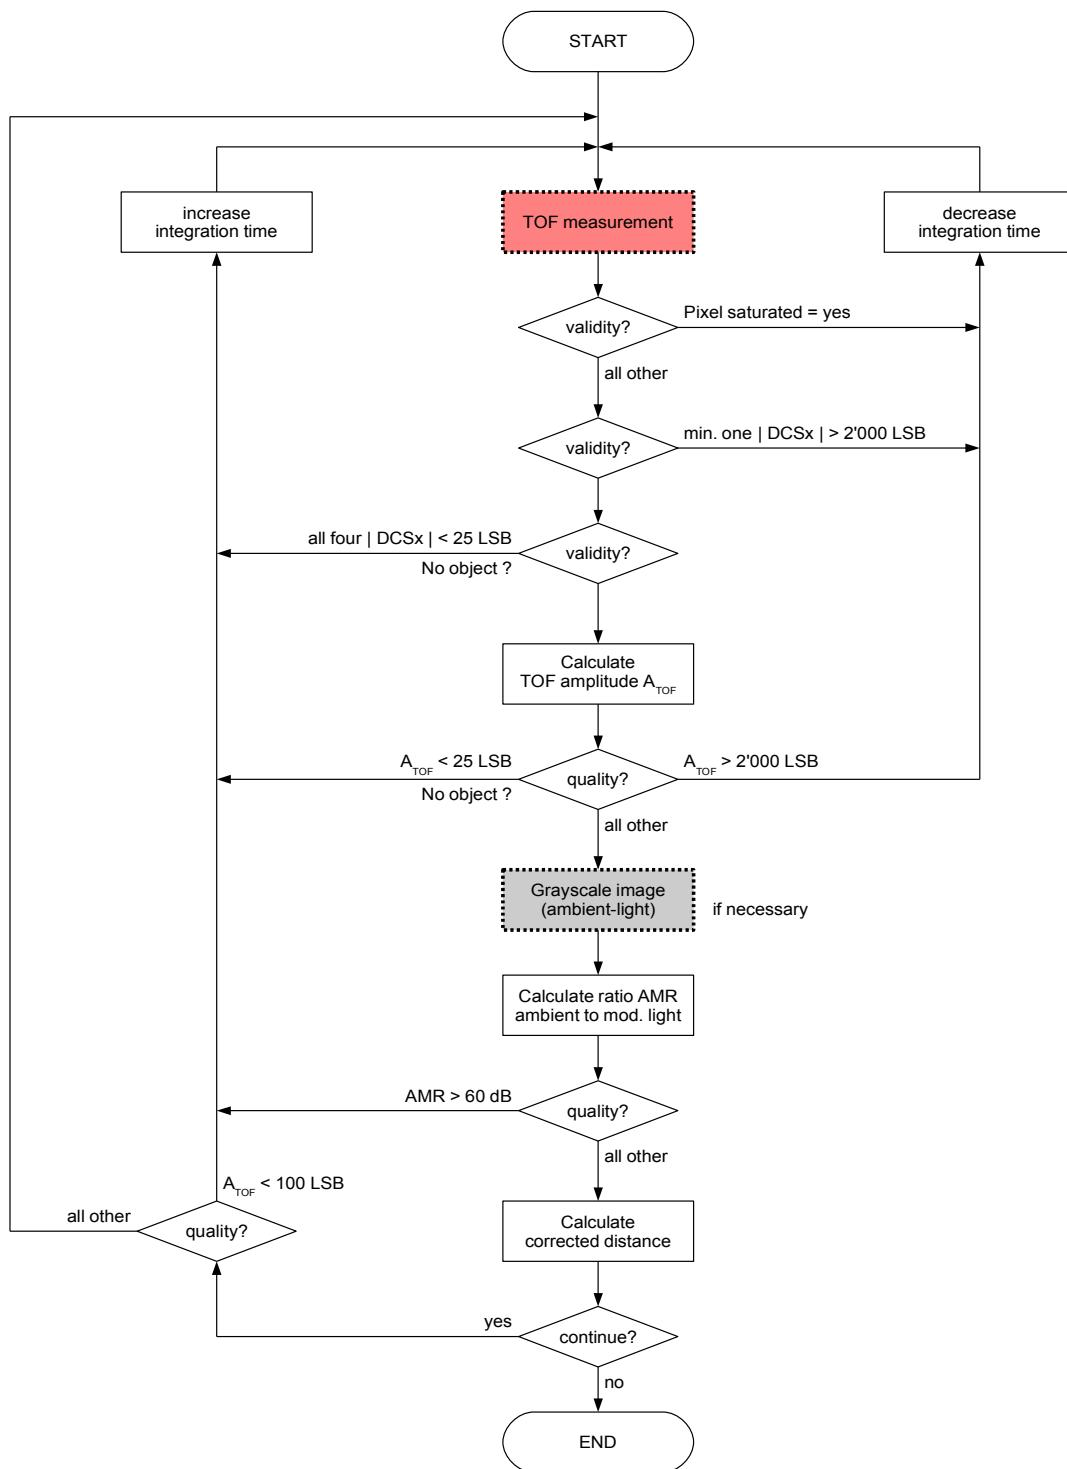

Figure 53: Generic validity and quality flow chart for a single pixel
Table 75: **Validity (V)** and **quality (Q)** decision matrix (see also Figure 53)